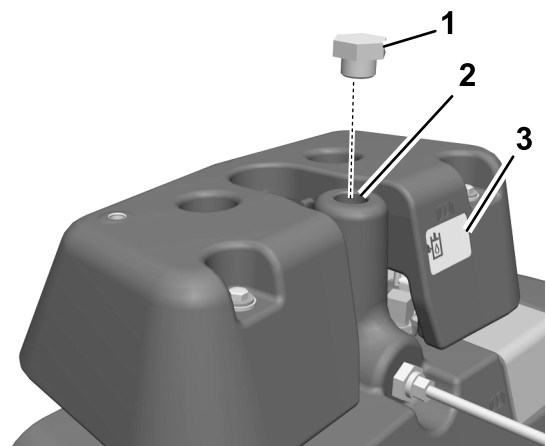

Figure 8
31. Remove and discard the breather, and top off the main hydraulic tank with hydraulic oil (Figure 8).
32. Install a plug in place of the breather (Figure 8).
33. Fill the leak detector tank with hydraulic oil until the oil level is at the middle of the sight window on the tank (Figure 8).